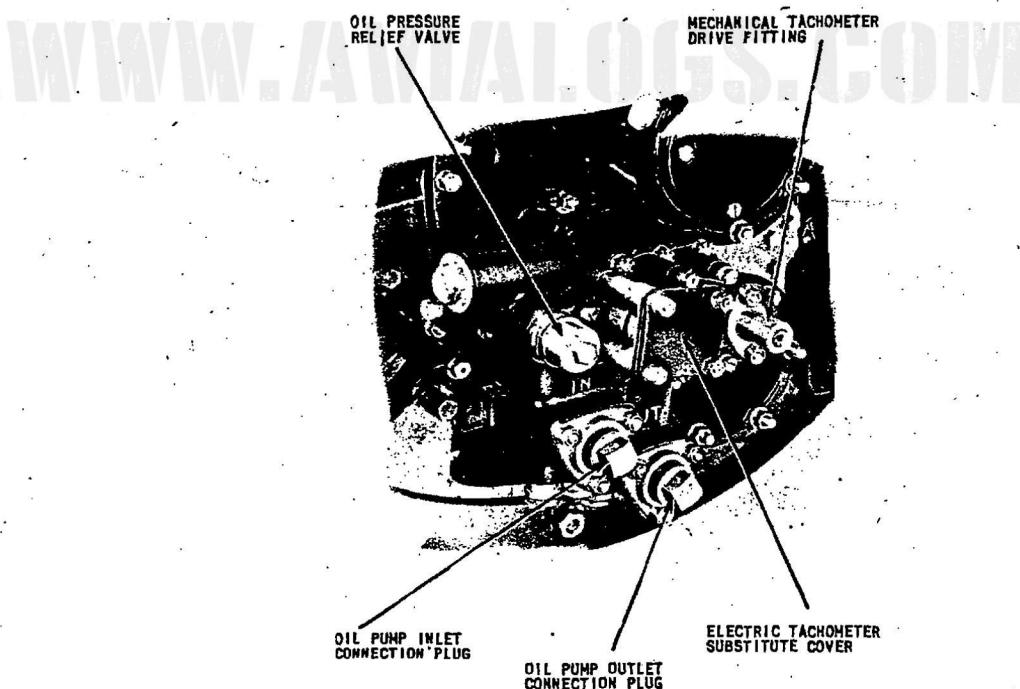

Figure 68—Oil Pump
(4) Install a gasket on the dual accessory drive housing parting surface and coat the gears with engine oil. Place the cover on its attaching studs and slide it forward over the rear journals of the gears. Place a plain washer and special cap nut on each of the two studs extending from the supercharger rear housing cover through the upper left-hand side of the accessory drive housing. Similarly install a plain washer and plain nut on the cover attaching stud located between the upper and lower drives. Tighten these nuts evenly, lockwiring the two special nuts together and installing a palnut over the plain nut.
(5) Install gaskets and accessories or cover plates on the two mounting pads following the instructions in applicable technical orders. Secure the accessories or cover plates with plain washers, nuts, and palnuts.
a. GENERAL.—The oil pump and tachometer assembly is located on the supercharger rear housing cover at the lower left-hand side. A mounting pad for an electric type tachometer and a screw-type connection for a mechanical-type tachometer is provided at the rear of the pump to the right of the oil pressure relief valve. See figure 68.